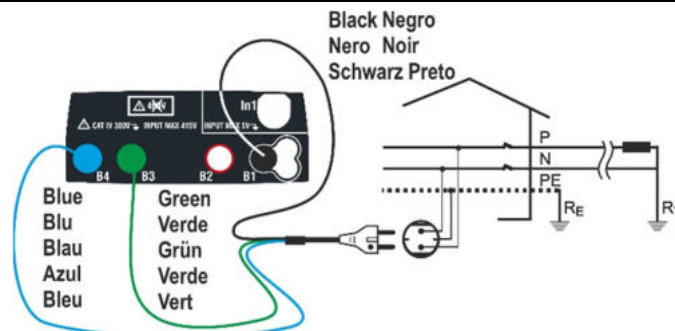
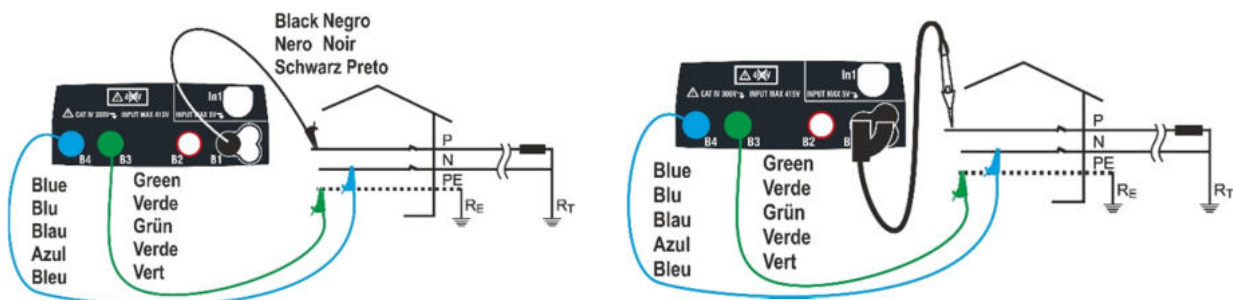
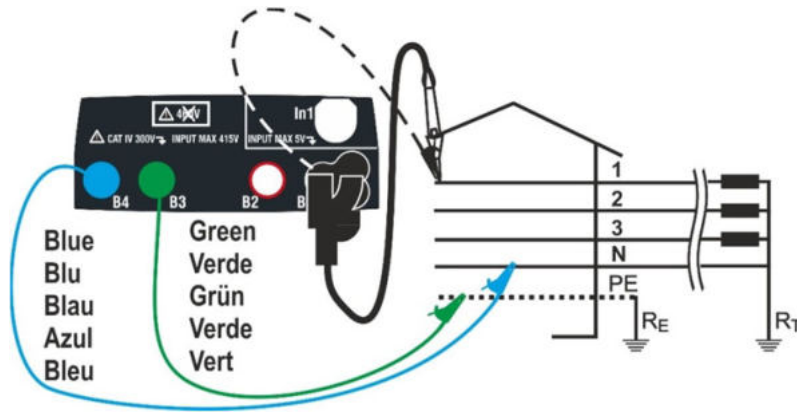
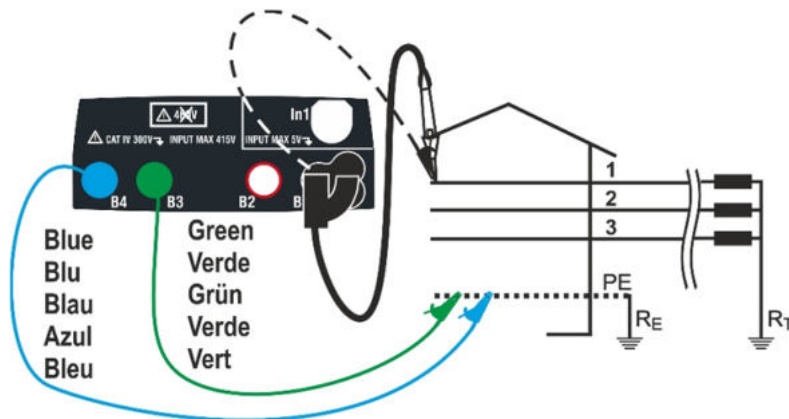

Fig. 18: P-N/P-PE measure for single-phase 230V systems with shuko plug
Fig. 19: P-N/P-PE measure for single-phase/two-phase 230V systems with cables and remote lead
Fig. 20: P-N/P-PE measurement for 400V+N+PE three-phase systems by means of single cables and remote lead
Fig. 22: P-PE/P-N measurement for 400V + PE (no N) systems by means of single cables and remote lead
- Perform the preliminary calibration of the test leads as described in § 6.4.2. Connect the shuko plug, the alligator clips or the remote lead to the electrical mains according to Fig. 18, Fig. 19, Fig. 20 and Fig. 22.